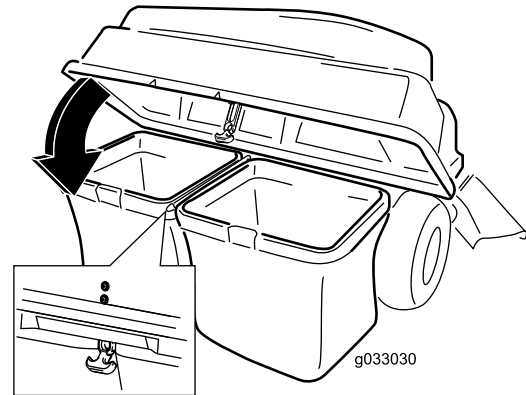

Figure 15
5. Lower the bagger top onto the bags (Figure 15).